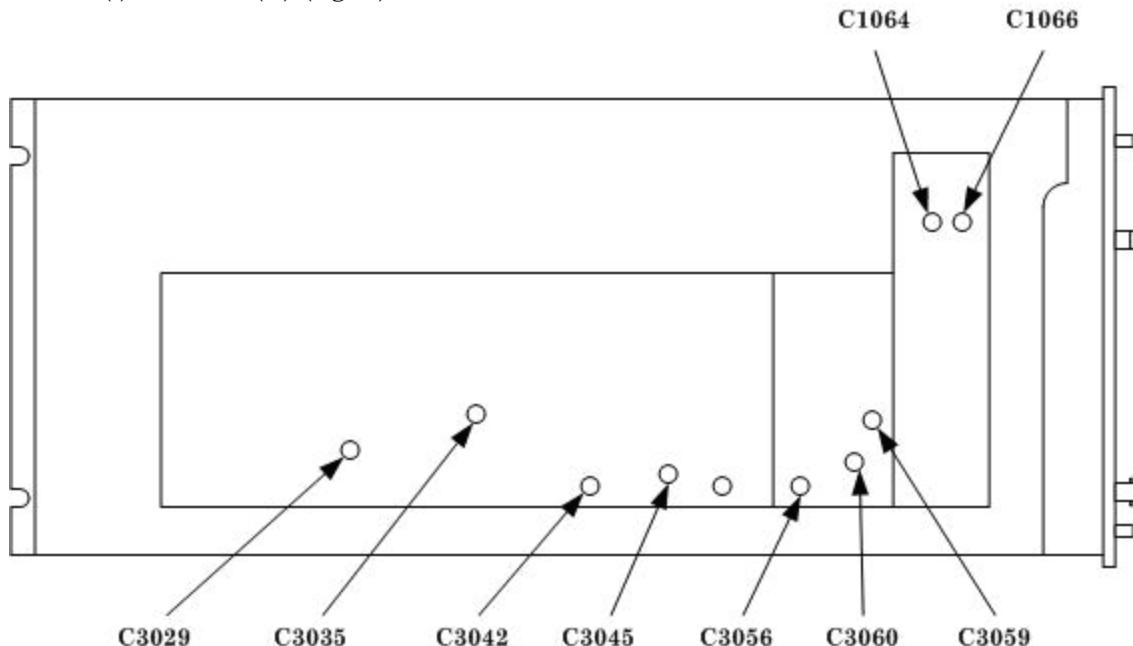

Figure 1. Test instrument - left view.
- (1) Connect spectrum analyzer to **500 MHz +30 dBm** output using cable and 3 dB attenuator (p/o TI).
- (2) Adjust spectrum analyzer to display 500 MHz as center frequency.
- (3) Adjust C3029 (fig. 1) for maximum signal amplitude while keeping the frequency between 499.95 and 500.05 MHz (R).
(4) Perform adjustments in order as listed in (a) through (f) below, adjusting for maximum amplitude on spectrum analyzer.
- (a) C3035 (R) (fig. 1).
- (b) C3042 (R) (fig. 1).
- (c) C3045 (R) (fig. 1).
- (d) C3056 (R) (fig. 1).
- (e) C3059 (R) (fig. 1).
- (f) C3060 (R) (fig. 1).
(5) Repeat **a** (1) through (5) and if required adjust C1064 and C1066 (fig. 1) for best in-tolerance condition (R).
(6) Repeat **a** (1) through (5) above as required due to interaction.
- (1) Adjust C3029 (fig. 1) for 500.00 MHz indication on frequency counter (R).
- (2) Repeat paragraph 8 a.